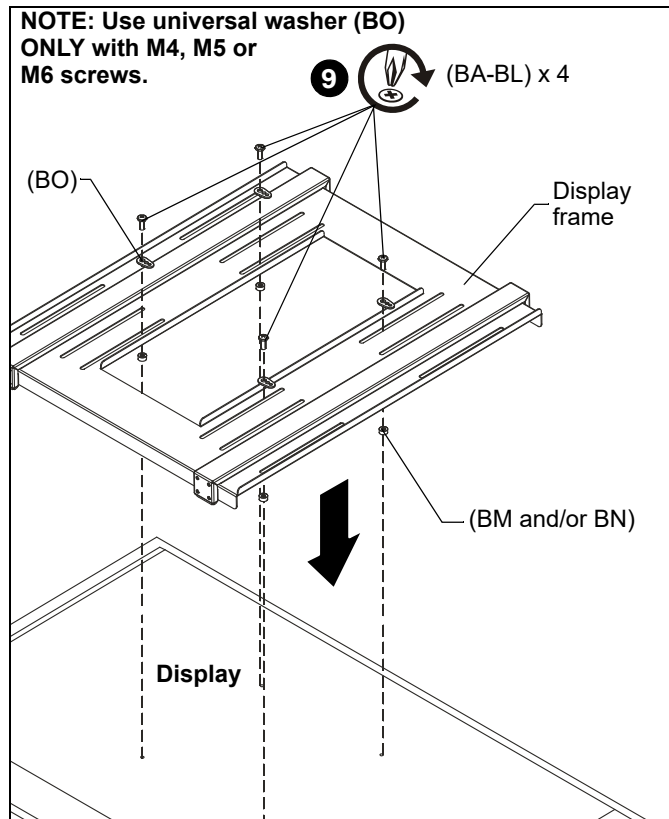

Figure 8
- Place display frame onto back of flat panel and match the VESA pattern on flat panel to the display frame mounting slots. (See Figure 8)
- Use selected screws (BA-BL), washers (BO--if required), and spacers (BM, BN--if required), to connect display frame to back of flat panel. (See Figure 8)